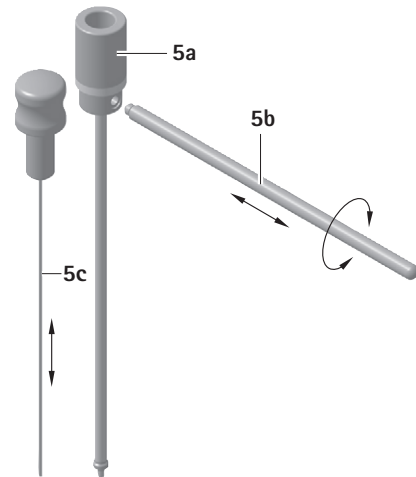

Fig. 1
- Insert the impactor 5c into the aiming tube 5a, see Fig. 1.